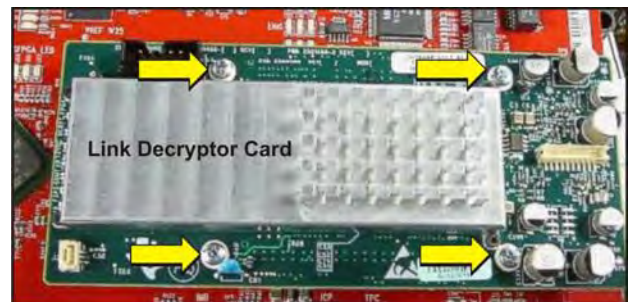

Figure 5-40 Remove Link Decrypter Card
6. Using a #1 Phillips™, remove the four screws securing the link decrypter card to the PIB. (**Figure 5-40**)